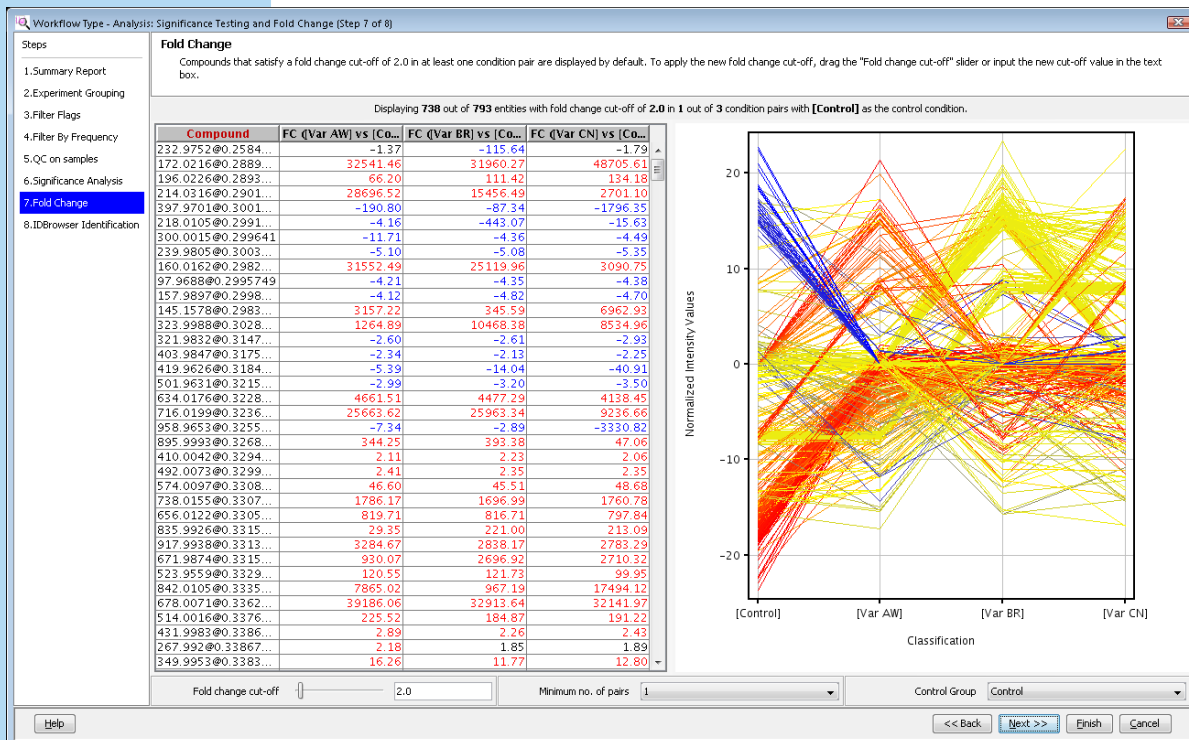

Figure 91 Fold change using the example experiment. The number of entities is reduced from 793 to 738 entities.
- Adjust the **Fold change cut-off** to obtain the best results. A Fold Change value of 2.0 is illustrated in Figure 91.